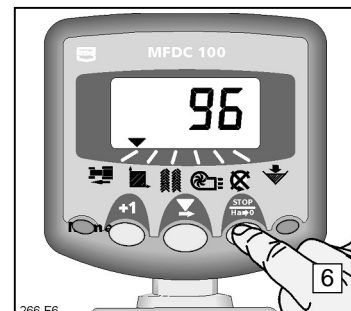

Fig. 6: Exit Autocal
6. To exit the %Autocal+function, press the  button. (Fig. 6).